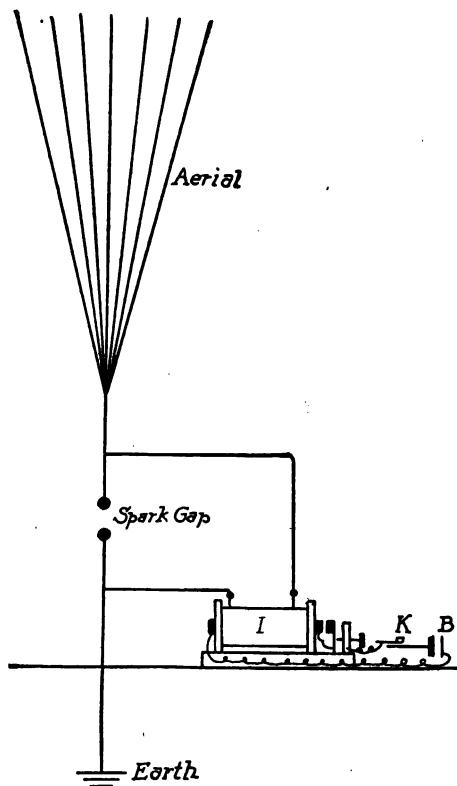

FIG. 134. — Wireless sending apparatus.
*Sender.* A wireless outfit consists of a sending apparatus to send out electric waves, and a receiving apparatus to receive these waves sent out from another station. The connections of these parts are shown in figure 134. The sending apparatus consists of some source of current electricity such as batteries *B*, an induction coil *I*, Leyden jars, a spark gap, and a key *K*, to control the current. The induction coil is an instrument by means of which an electric current